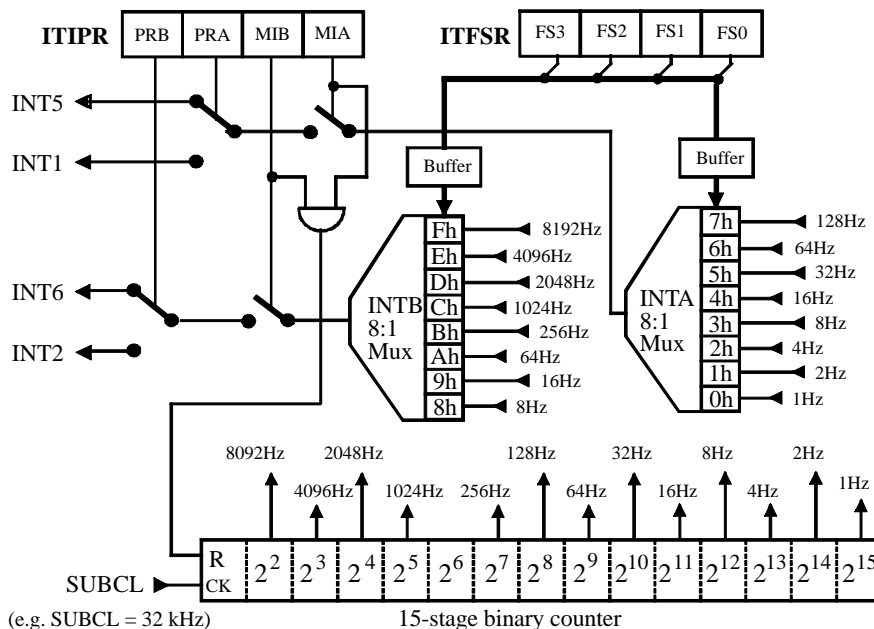

Figure 26. Interval timers / prescaler
11) and consists of a 15-stage binary divider and two programmable multiplexers for selecting the appropriate interrupt frequencies for each interrupt source (see figure 26). Each multiplexer is completely independent and is controlled by the common Interval Timer Frequency Select Register (ITFSR). Buffer registers store the respective frequency select codes and ensure complete programming independence of each interrupt channel.